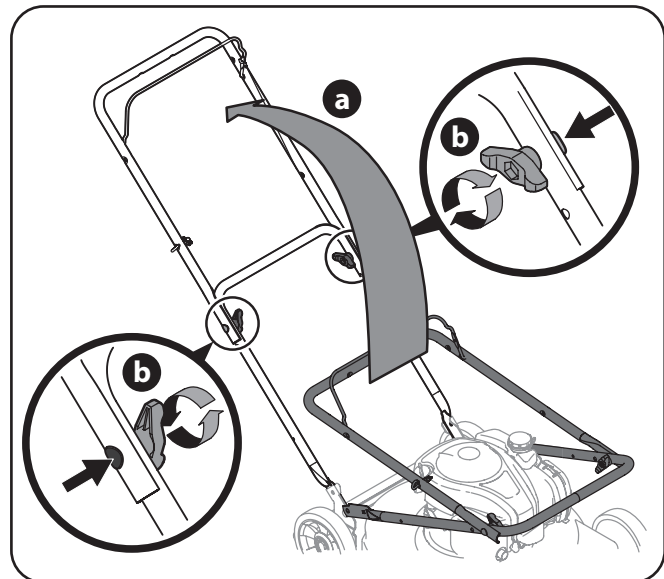

Figure 3-1
- a. While pushing in on both sides of the lower handle, pull up and back on upper handle as shown in Figure 3-1. Make certain the lower handle is seated securely into the handle mounting brackets. Do not crimp cable while lifting the handle up.